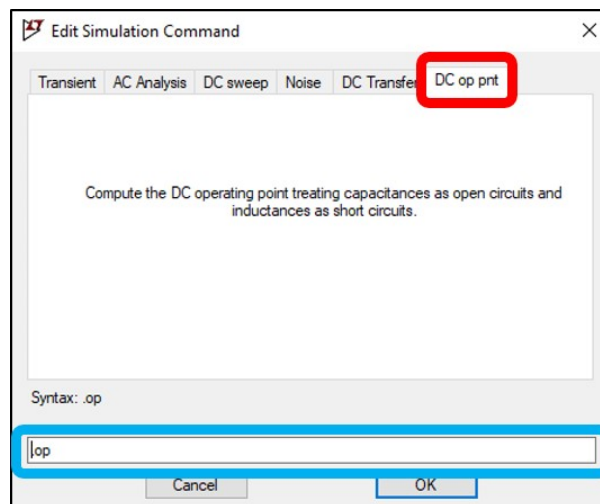
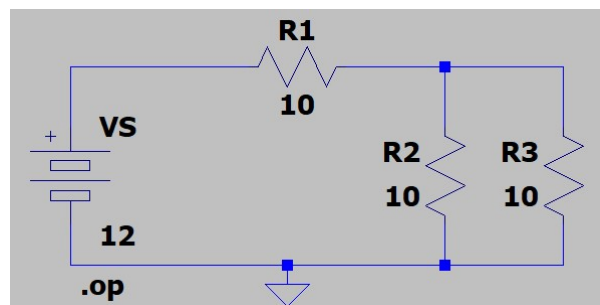

Figure 34: LTspice DC operating point tab.
Figure 35: LTspice example of schematic with simulation command.
2. Select the kind of simulation you want to run. As a start, we are only interested in the steady-state DC node voltages and loop currents. Therefore, a DC operating point simulation will suffice. To set up the simulation, navigate to the DC operating point simulation type by clicking on the *DC op pnt* tab in the *Edit Simulation Command* window indicated in red in Figure 34.
Note: You can choose different simulation types by navigating through the tabs. You will see the spice simulation command (blue box in Figure 34) change as you select different simulation types and change parameters. You can experiment with different simulation types on your own by using the user interface or by modifying the simulation command manually. You might need to do some Googling to understand some of the parameters.
3. Click *OK* to close the *Edit Simulation Command* window. You will see that some text now follows your cursor. Click somewhere on your schematic to place the text. This text is the spice simulation command that was also displayed in the blue box of Figure 34. This text will provide the software with all the parameters required to run the simulation. Your schematic should look like Figure 35 (note the simulation command in the bottom left).